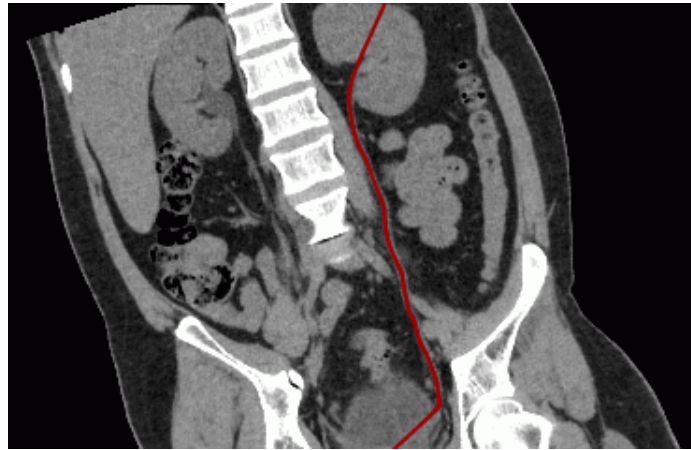

Figure 5.10: Involute curve from first to last point
- **Involute curve from first to last point** (Fig. 5.10). Compared to the **Straigtened involute** mode, the distortion degree at a distance from the curve is lower, but the level of detail along the curve is also lower. The involute is highly dependent on the position of the first and the last point on the curve. The level of detail along the curve is greater than in the **Involute curve in orthogonal planes** mode.